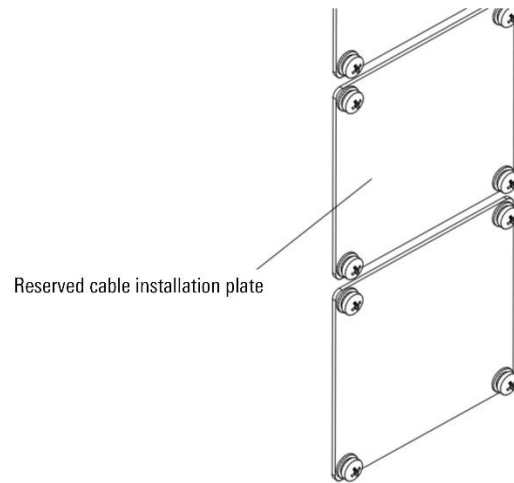
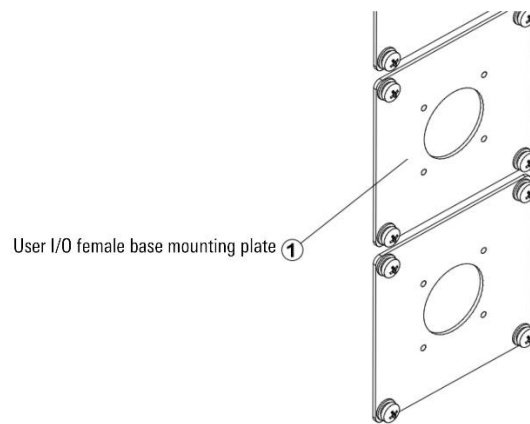

Figure 16-10 Reserved cable installation plate
Figure 16-11 User I/O female base mounting plate
- Step1. Remove the original reserved cable mounting plate (refer to Figure 16-10) with a cross screwdriver, and install the ① user I/O female mounting plate (refer to Figure 16-11) on the cabinet.